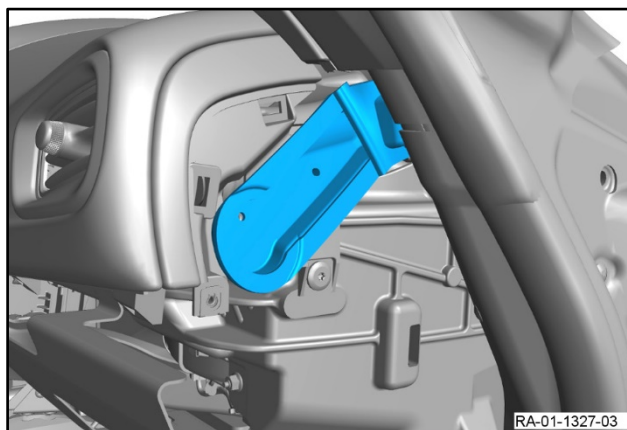

Figure 4
3. Remove the duct for the door (refer to Figure 4).
7. Install the duct for the door (refer to Figure 4).
4. Install the duct feed for the door (refer to Figure 4).